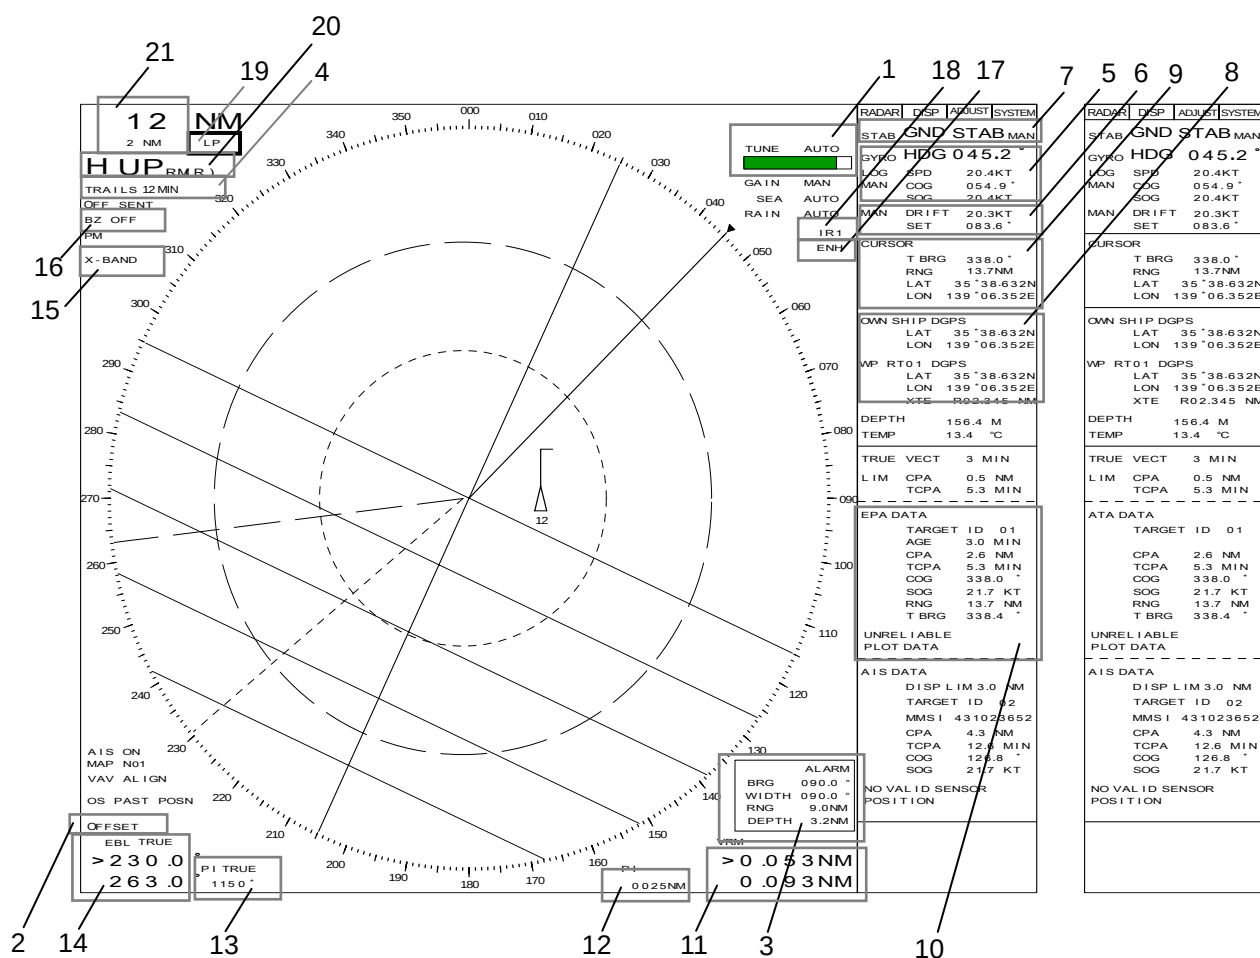

Figure 5.2 MDC-1810P/1820P On-screen information
- (1) Press the POWER ON/OFF key switch. The red LED lamp lights accordingly and a 3-minute timer starts to count down. At the same time, the following information will be shown on the screen.
- (2) When the countdown timer finishes, the STANDBY sign will appear on the screen.
- (3) Press the STBY/TX key to transmit. The radar starts transmission and the radar video, alphanumeric and graphic information will be shown on the screen at a preset brilliance level. Refer to Figure 5.2 for possible screen presentation.
All available screen presentations are shown in Figure 5.2 and respective meanings are given under the illustration.